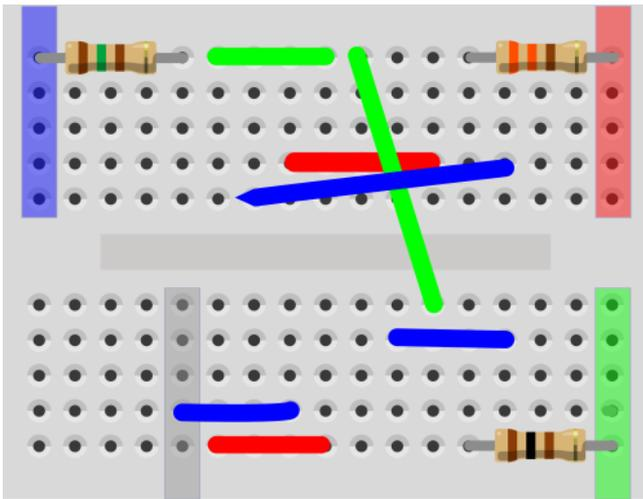

Figure 5-21. Placement of wire links
2. Place the wire links as shown in Figure 5-21.